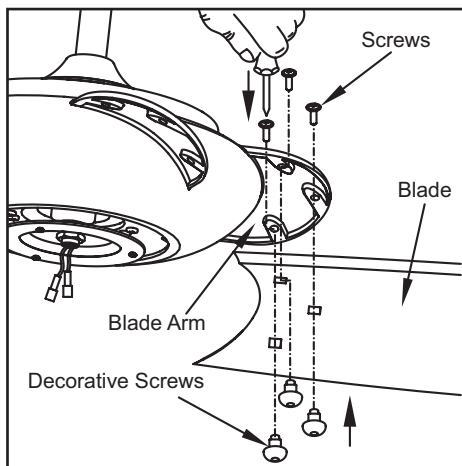

Figure 10
1. Attach blade to blade arm using decorative screws and screws as shown in Figure 10. Start a screw into decorative screws. Repeat for the two remaining decorative screws and screws.